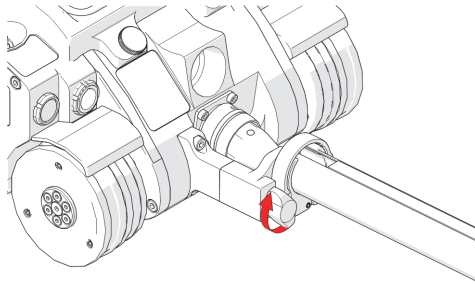

Figure 2-117 Tighten wing knob
2. Tighten the cable management clamp wing knob (see Figure 2-117 on page 122).